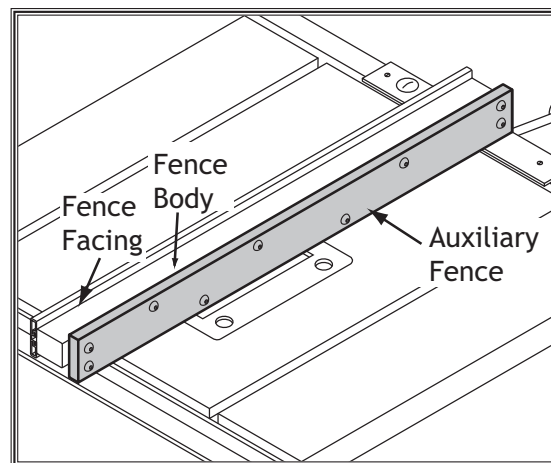

Figure 67. Auxiliary fence.
4. Use the mounting hardware that had previously attached the fence face to attach the auxiliary fence. The end result should be similar to **Figure 67**.